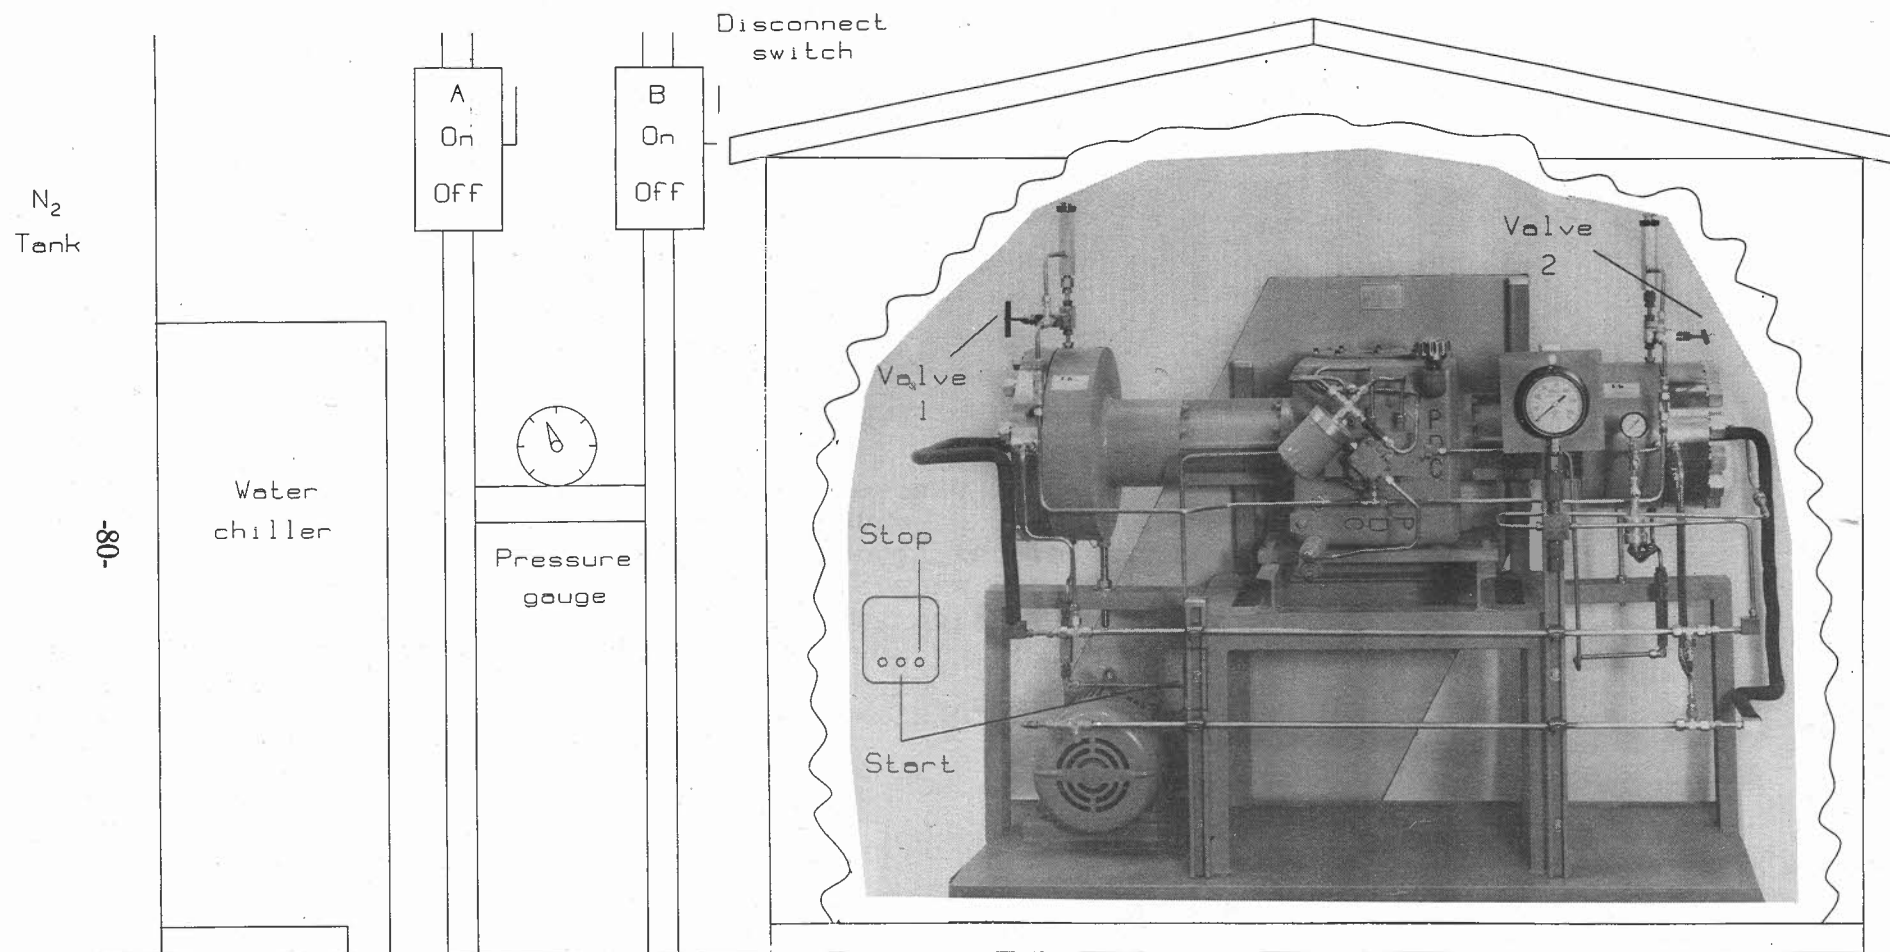

Fig. 13. Carbon dioxide compressor
3. Close disconnect switch [switch B] (Fig. 13) for compressor
6. Check open position of pressure relief bypass valves [1 and 2] (Fig. 13).
11. Check oil flow in both sight-glasses (next to valves [1] and [2], Figure 13).